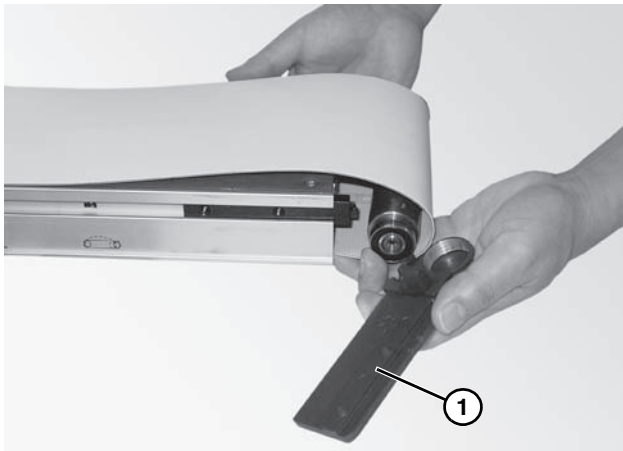

Figure 39
3. Remove the head plate (**Figure 39, item 1**) from the conveyor frame.